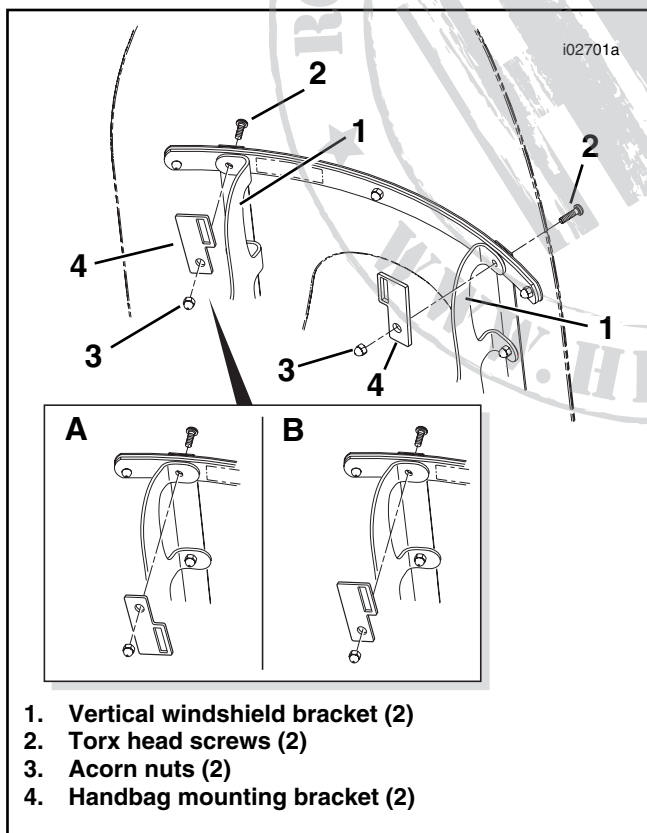

Figure 1. Handbag Bracket Mounting
1. See Figure 1. Using a T-27 TORX® screwdriver, remove the two screws (2) and acorn nuts (3) that secure the vertical windshield brackets (1) to the windshield. Save the acorn nuts.
2. Obtain the handbag mounting brackets (4) and **new**, longer screws (2) from the kit.